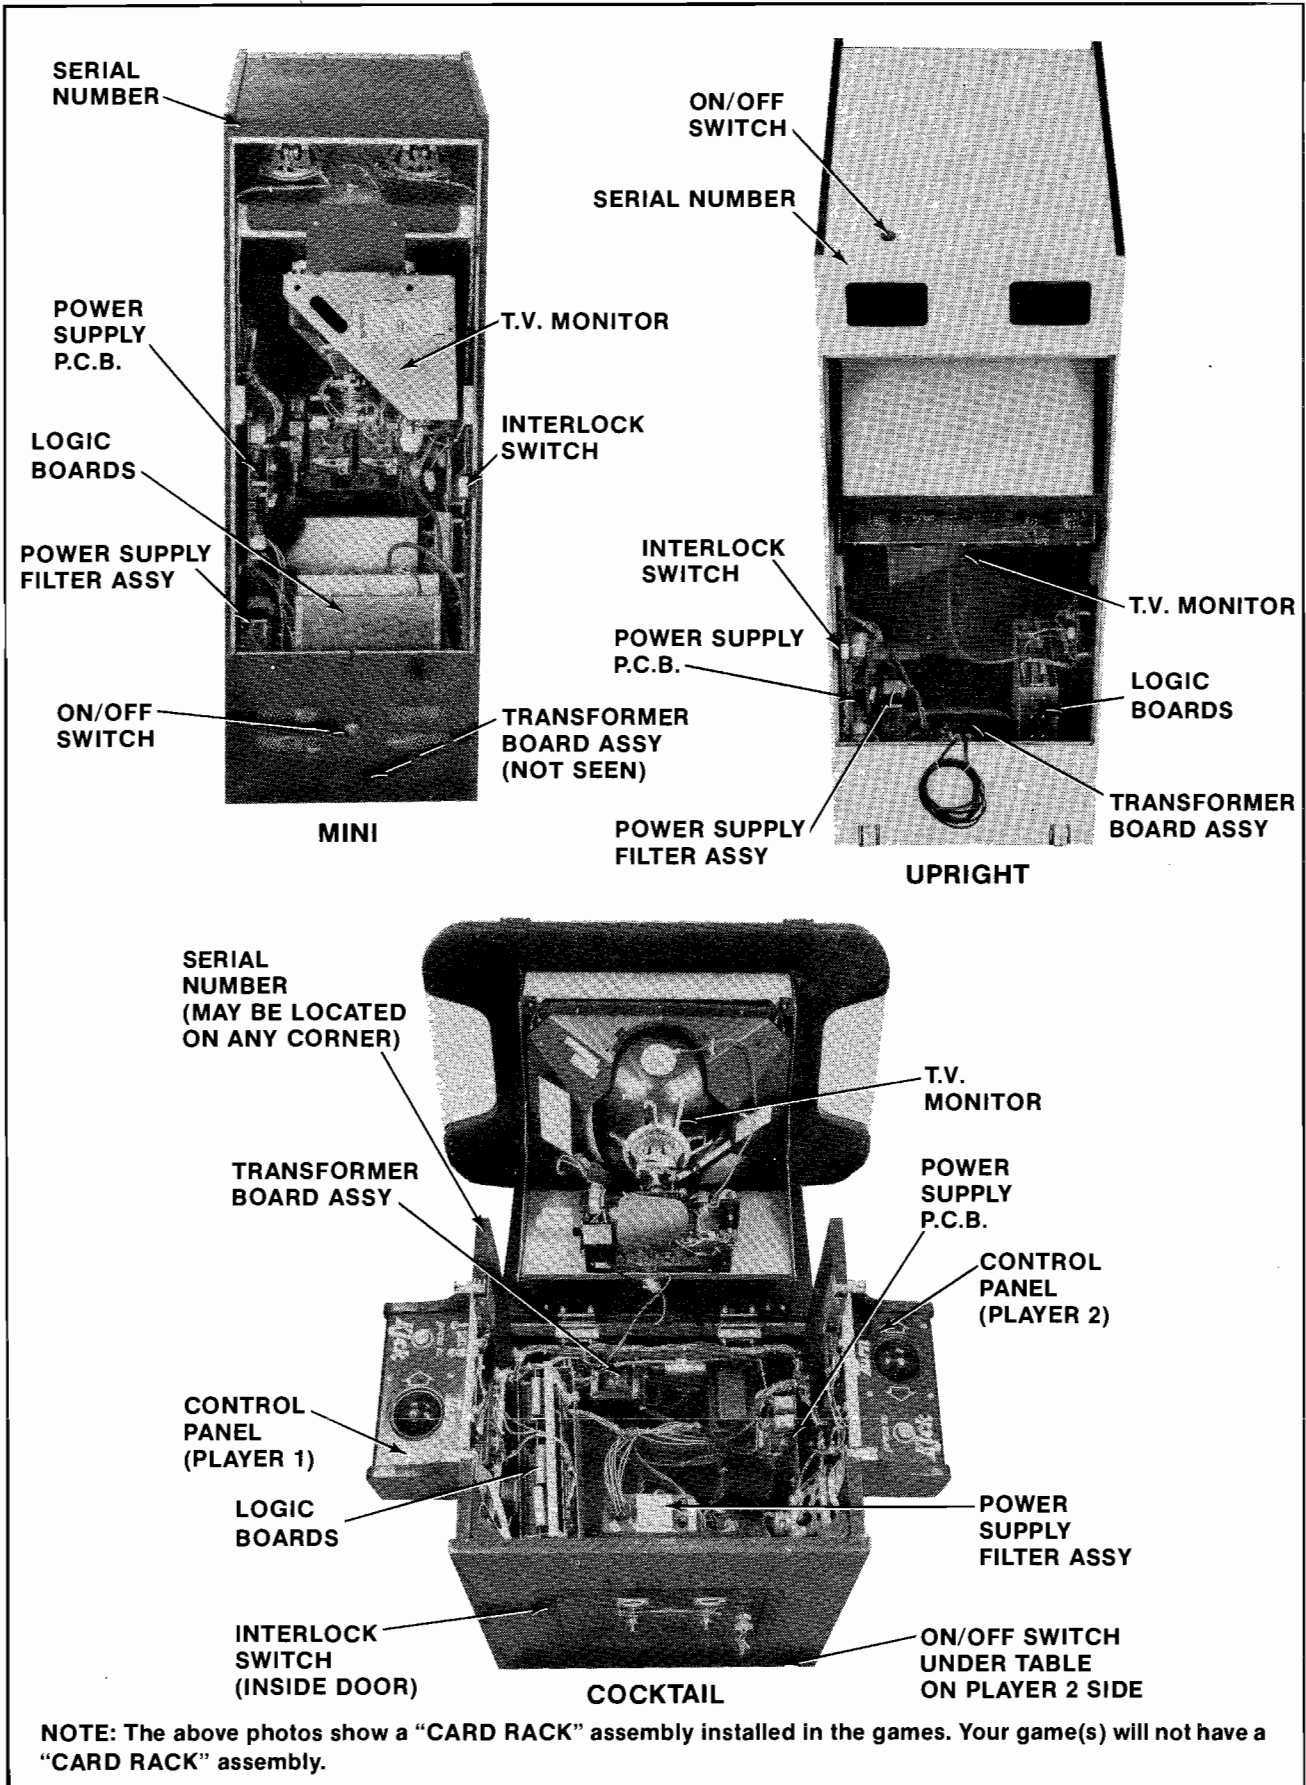

Figure 2 Location of serial number, interlock switch, ON/OFF switch & major sub-assemblies
5. Open the cabinet and inspect the inside of the game for any signs of damage. See Figure 2.
- Make sure all printed circuit boards (P.C.B.'s) are firmly seated in their connectors. See Figure 2. These connectors are also keyed. The P.C.B.'s will only go into them one way without being damaged.
- Note the location of the game's serial number. See Figure 2.
- Check all major subassemblies to be sure they are mounted securely. These are called out in Figure 2 & 3.
**3. Interlock and power ON/OFF switches.** See Figure 2.
The game ON/OFF switches for all models are located as shown in Figure 2. Turn the game on and allow it to warm up a few minutes.